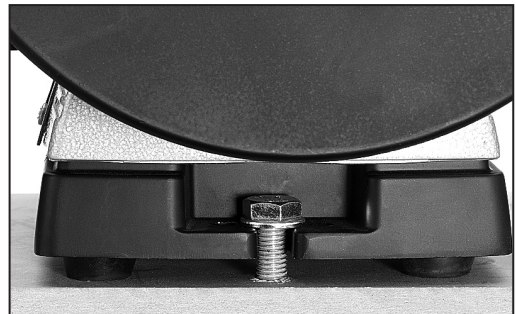

FIG. 5
6.4 BENCH MOUNTING YOUR GRINDER - FIG.5
6.5 REPLACING THE GRINDING WHEELS - FIG 5